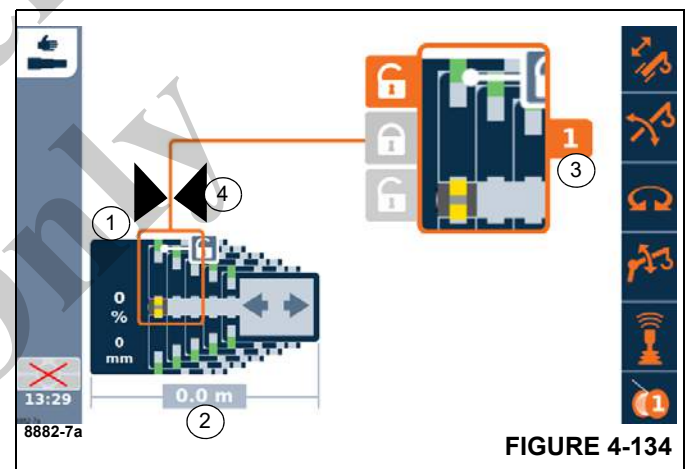

FIGURE 4-134
The display (1), (Figure 4-134) shows how far the telescoping cylinder is extended, e.g. 0%.
The display (2), (Figure 4-134) shows the current main boom length.
The display (3), (Figure 4-134) shows the corresponding telescopic section, e.g. telescopic section 1.
- The display (3), (Figure 4-134) shows the corresponding telescopic section, e.g. telescopic section 1.
- The display (4), (Figure 4-134) shows one or two arrows, depending on the distance to the locking point.